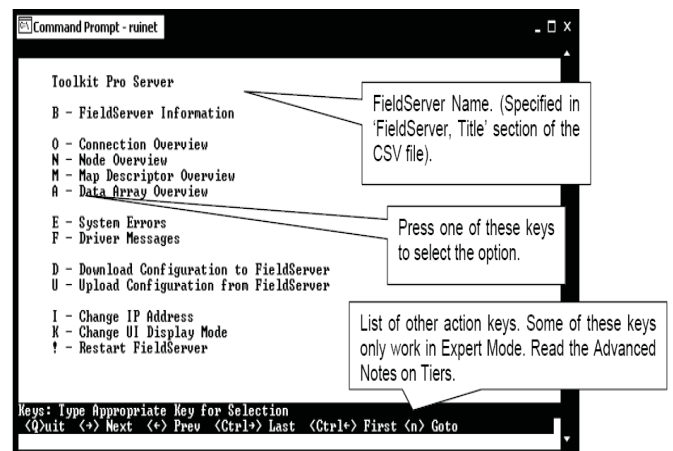

Figure 11: RUINET PT-Link II Main Menu
6.) Once connected, you will see the *RUINET Main Menu* (**Figure 11**). Unless you need to make changes to the config.csv file (see **Steps 9-13 on page 10 & 11**), you are now ready to send and receive files to and from the PT-Link II .